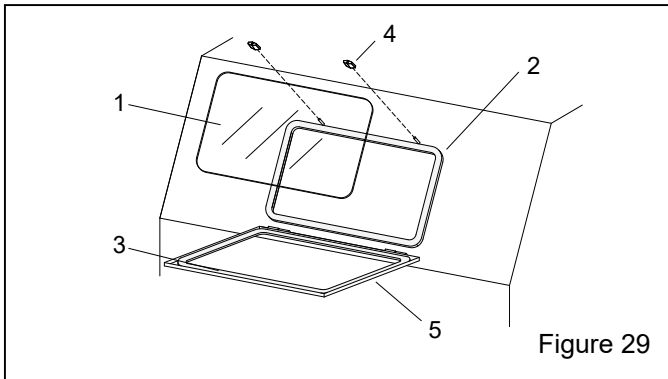

Figure 29
10.3 View Window Assembly – Figure 29